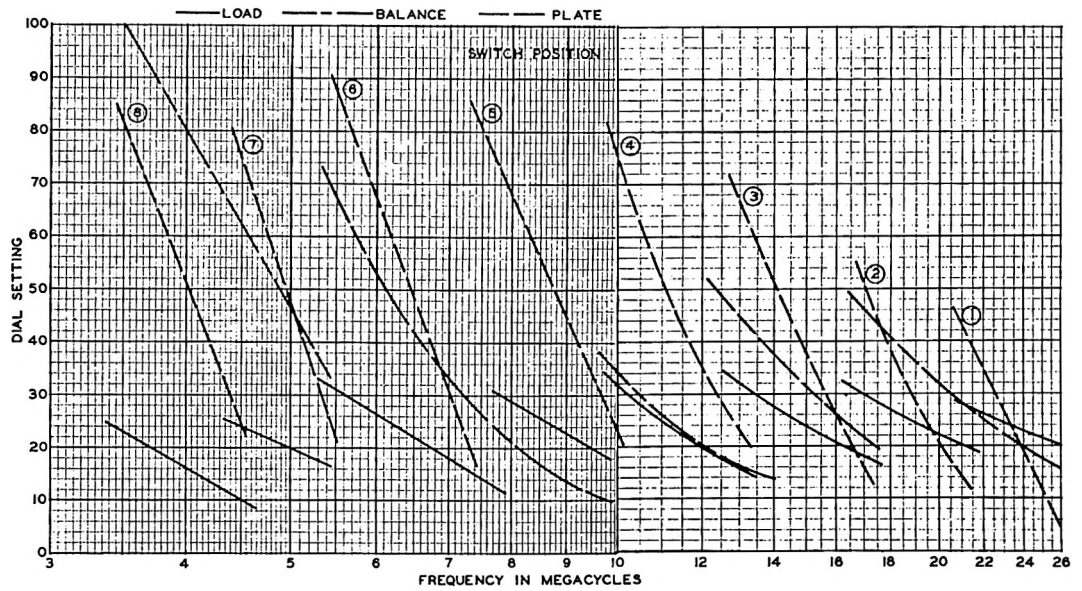

Figure 27B. Typical Tuning Curve Output Network with 600  $\Omega$  Balanced Load
4.6.4. Power Amplifier and Antenna Tuning. (See figure 27B and 28.) This transmitter has been designed for operation into an unbalanced or balanced antenna system. Either type of operation may be selected at will. The power amplifier plate tank and antenna loading circuits are combined in a pi network. The network is designed to couple the output of the power amplifier to an unbalanced or balanced antenna system. (The balancing circuit must be used when exciting a balanced antenna system.) The circuit will couple the power amplifier circuit to antennas having impedances of from 50 to 1200 ohms with a phase angle of  $\pm 0$  degrees, 70 to 850 ohms with a phase angle of  $\pm 45$  degrees, and 100 to 600 ohms with a phase angle of  $\pm 60$  degrees. (Refer to figure 27.) The balancing circuit when used will permit operation into a transmission line of 300 to 1200 ohms resistive, with a standing wave of up to 2-to-1 ratio.